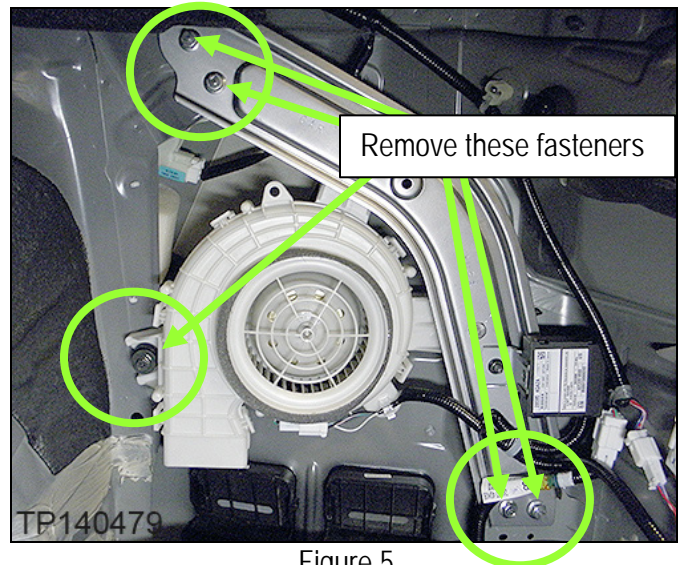

Figure 5
8. Remove the nuts and bolts shown in Figure 5 and then move the High Voltage battery cooling fan and bracket gently out of the way.